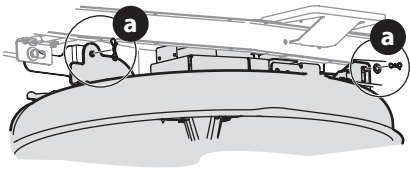

Figure 32
- Remove the remaining bow-tie cotter pins (a) securing the deck to the riding mower (Figure 32).
NOTE: When reassembling, the bow-tie cotter pins (a) should be re-installed from the top down (Figure 32).